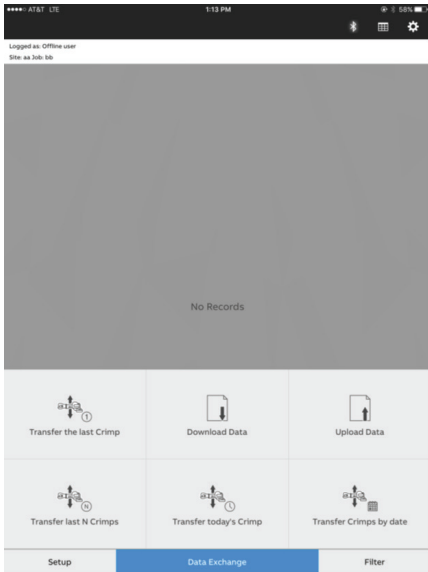

Figure 02
- Select **Data Exchange** on the selection bar (Figure 02)